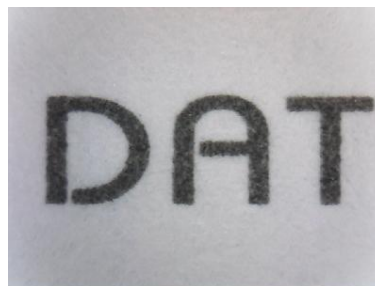

Fig.3-18 Video image with no flip
- ⊕ No Flip “” : Video image’s flip direction, does not makes any flip shown in Fig.3-18.